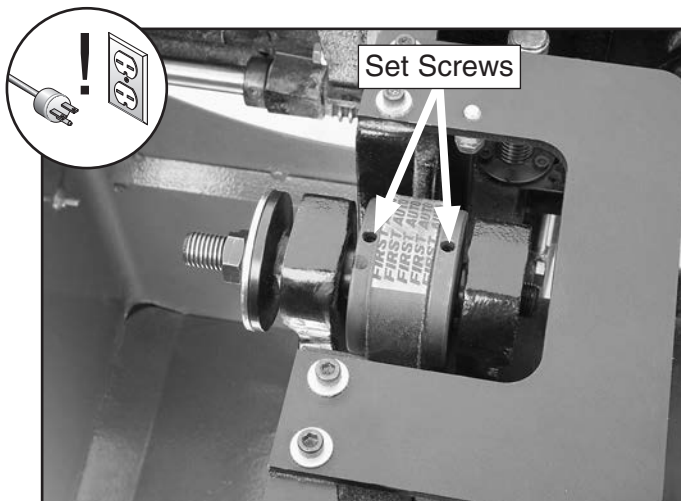

Figure 139. Location of arbor set screws.
12. Loosen set screws shown in **Figure 139**.
29. Re-install bearing retainer with (3) Phillips head screws removed earlier.
30. Tighten pulley set screws shown in **Figure 139** on **Page 79**.